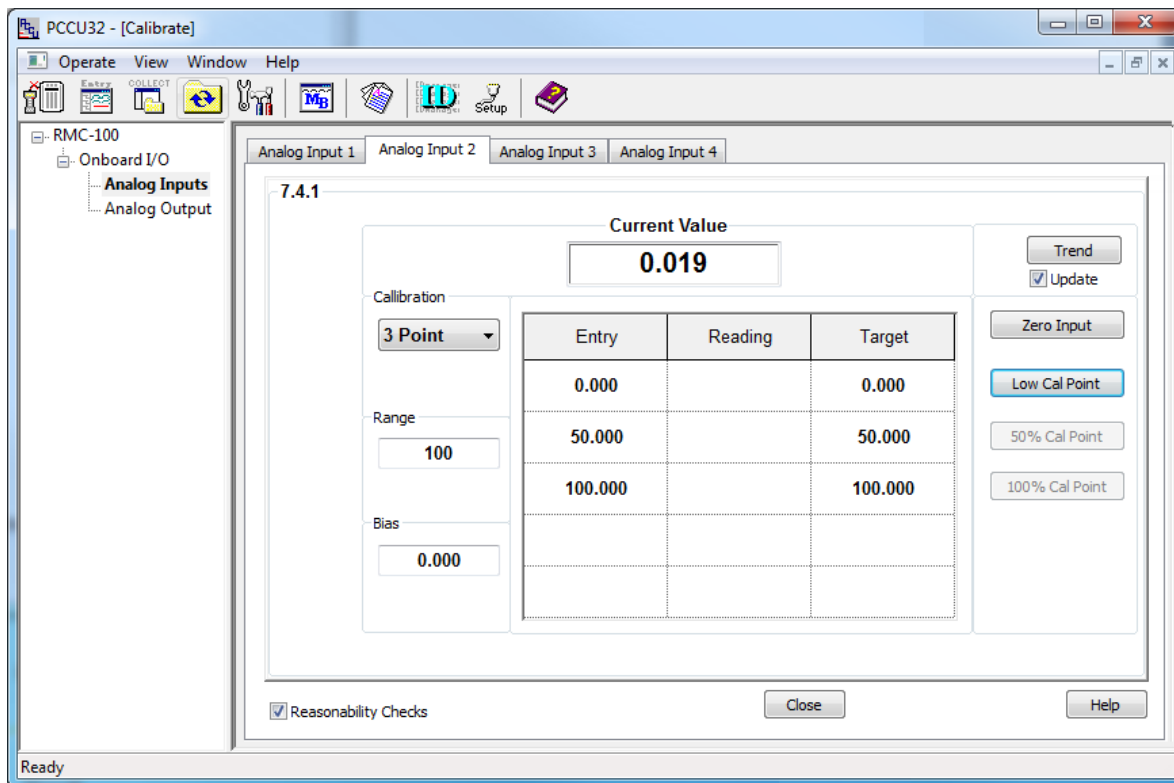

Figure 60: AI current default calibration values
7. Click the **AI** tab to be calibrated (Figure 60).